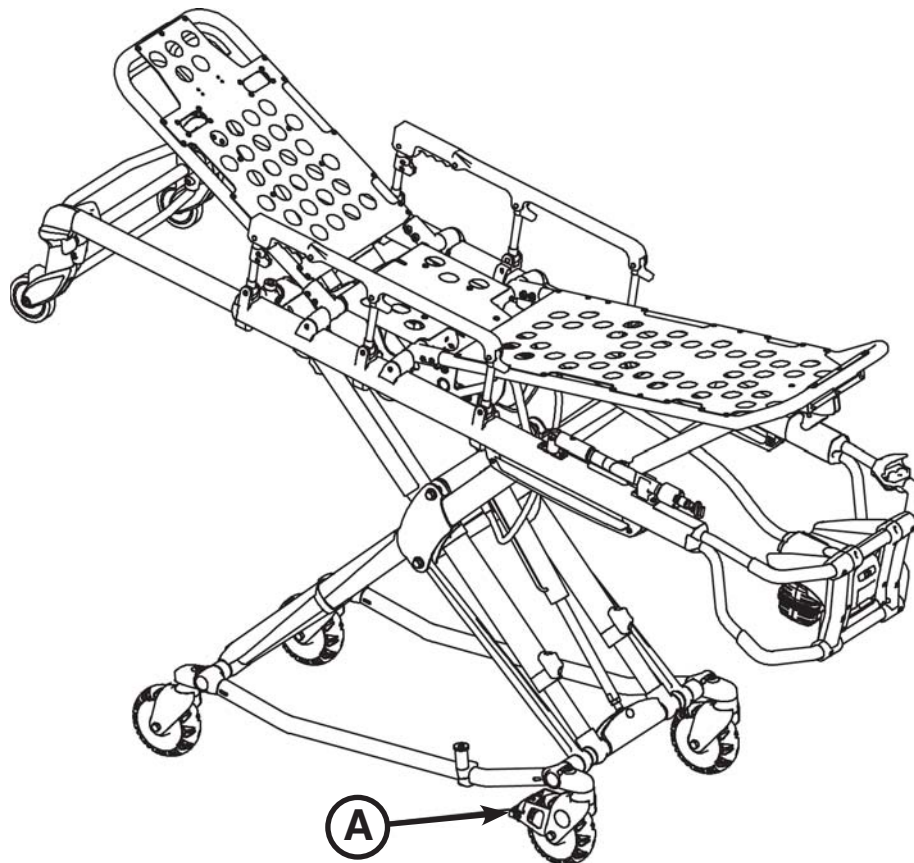

Figure 46: Wheel Lock
To activate the optional wheel lock(s), press fully down on the pedal (A) as shown in Figure 46 until it stops and is resting firmly against the surface of the wheel.